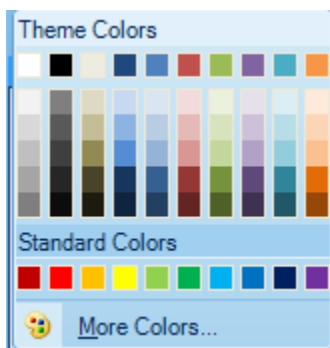
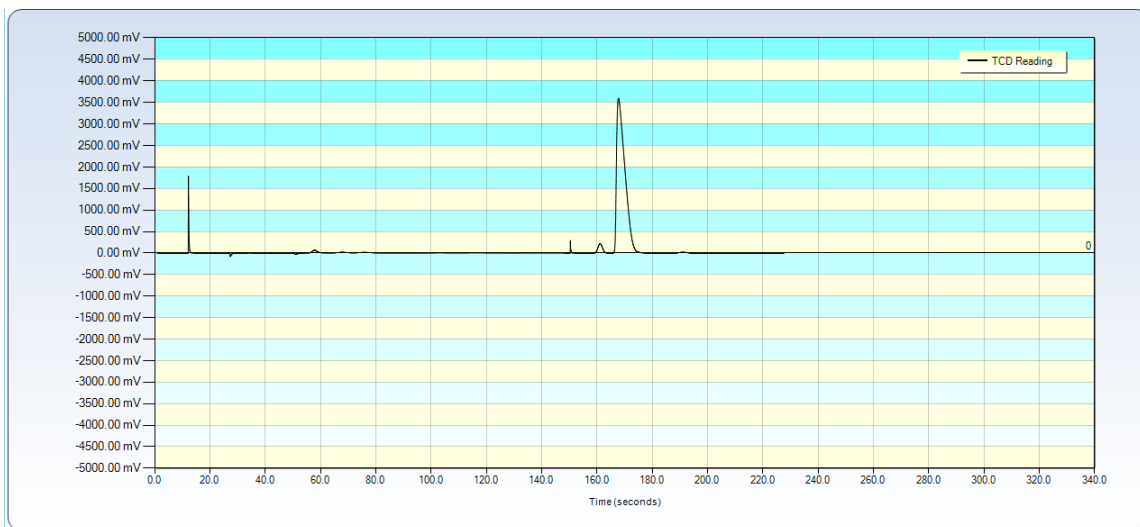

Figure 4-22: Chromatogram trace colour selection palette
Figure 4-29: Colour after First Back Colour (also shows border)
- **Trace Colour** – presents a palette of colours (Figure 4-22). To select the desired colour for the TCD trace, move the cursor to it and press the mouse button. This function is a standard Windows feature.
- First Back Colour* – presents a colour palette (Figure 4-22) to change the colour of the background (Figure 4-29).